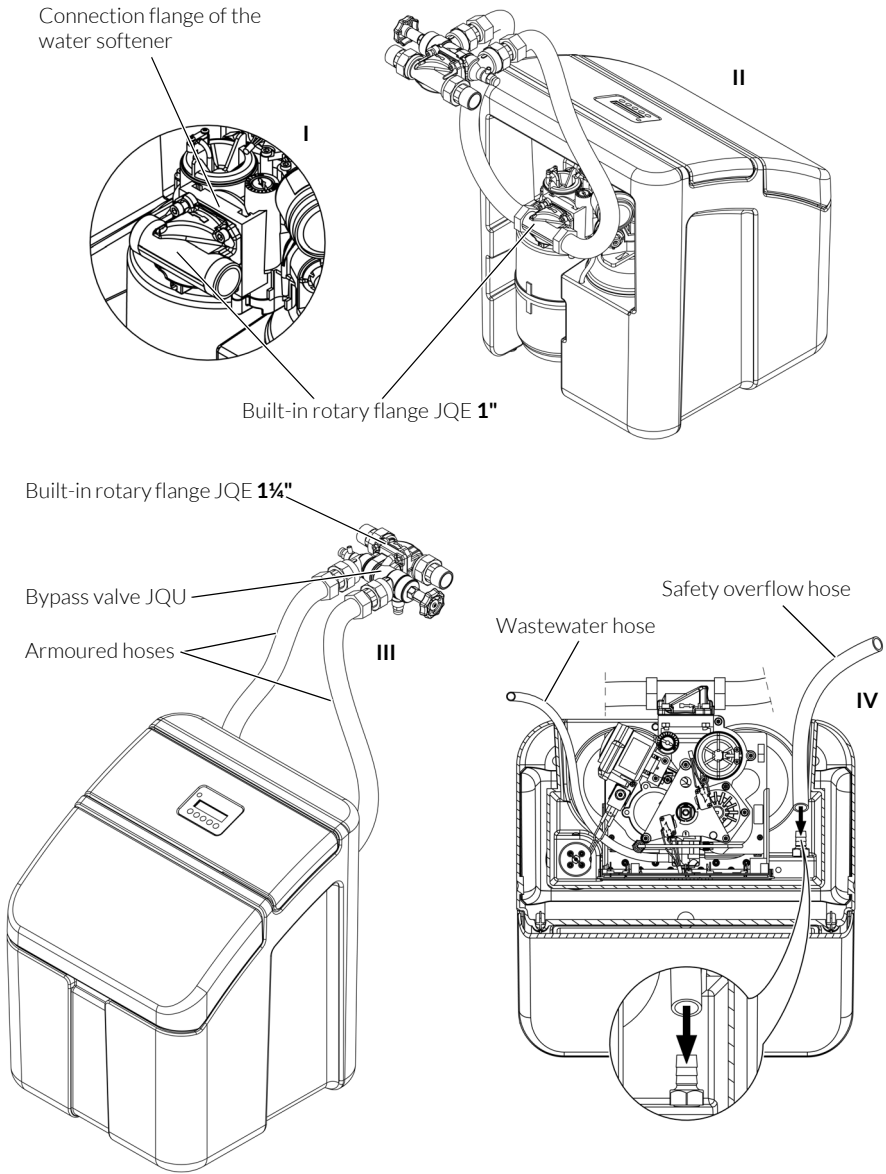

Fig. 5: Mounting the water softener
- / Connect the built-in rotary flange JQE 1" to the connection flange of the water softener by engaging the bayonet fitting (see fig. 5 I). Observe the flow direction arrow on the built-in rotary flange!
- / Connect the armoured hoses to the built-in rotary flange JQE 1" (see fig. 5 II).
- / Connect the free ends of the armoured hoses to the bypass valve JQU (see fig. 5 III). Again pay attention to the flow direction!
- / Slide the transparent safety overflow hose over the connecting piece (see fig. 5 IV).